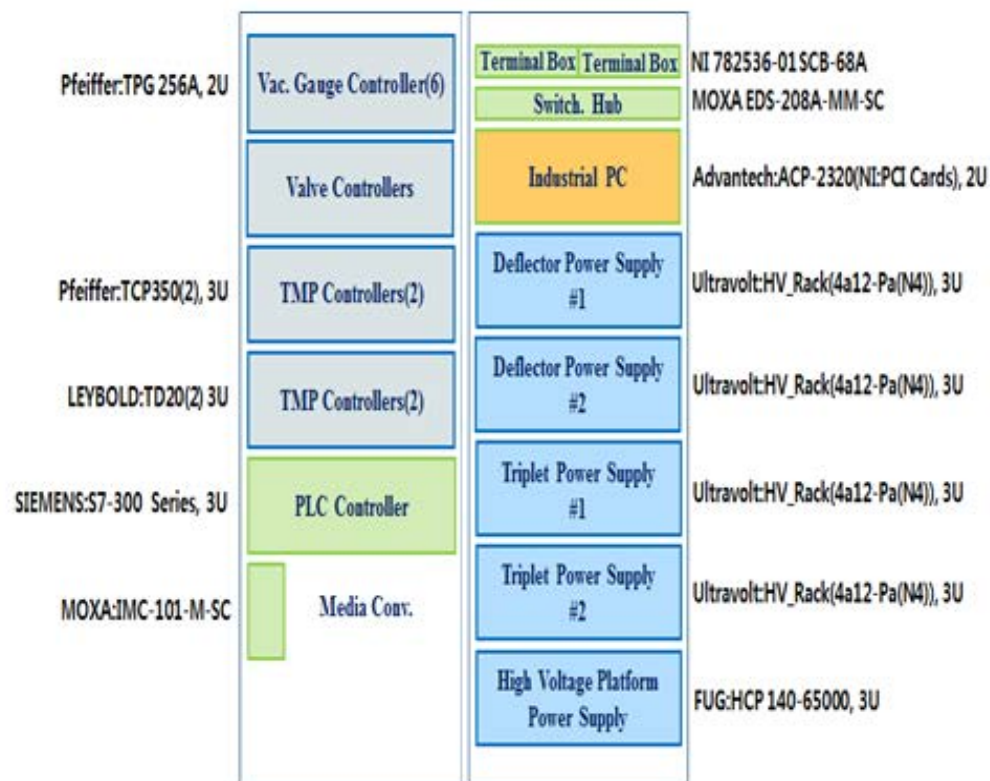

Fig. 4. Ground Rack device configuration and installation photo
- Ground Rack for controlling the configuration of other devices(EQT, Steerers, High-Voltage & Magnet) is shown in Figure 4.